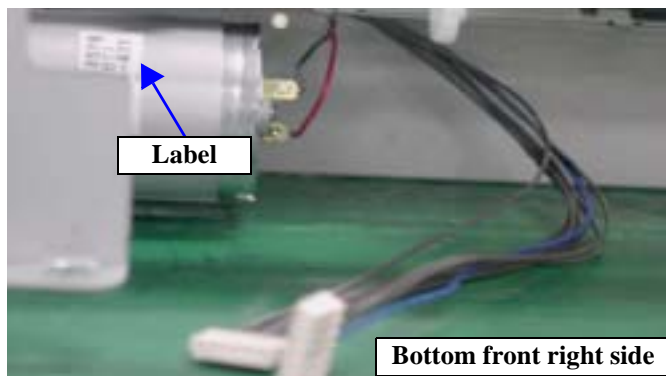

Figure 4-112. Installing the PF Motor
- When reinstalling the PF Motor, face the label of the PF Motor frontward as seen from the printer front. Refer to Figure 4-112, "Installing the PF Motor".